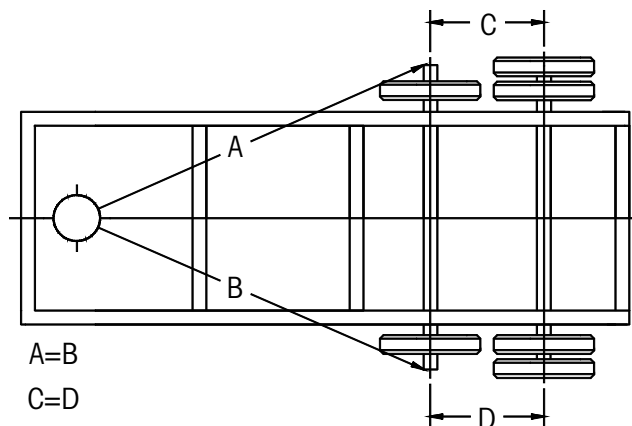

Figure 7. Measurements for proper alignment
1. Check the initial alignment by measuring from the trailer's kingpin (or kingpin extender) to both spindle ends (or spindle extenders) of the front axle. The "B" measurement should equal the "A" measurement (Figure 7).
2. After aligning the forward axle, align all additional axles to the forward axle. The "D" measurement should equal the "C" measurement (Figure 7).
3. Measure the distance from the trailer kingpin to the ends of the forward axle. Move the suspension fore and aft until both ends of the axle are equal in distance from the kingpin (Figure 7, dimensions A and B).